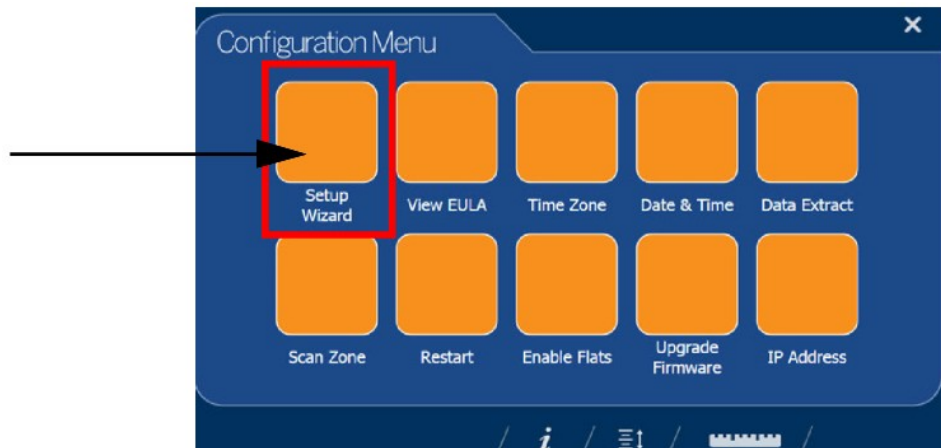

Figure 2-2. Configuration Menu
1. Select Time & Date Figure 2-2 on page 10.